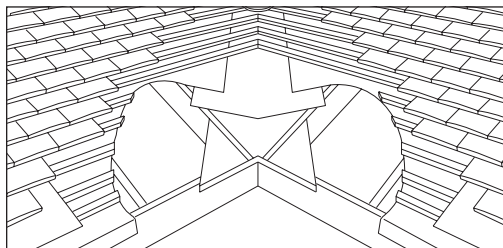

Fig 62 – Metal valley construction for plain tiles
- Mechanically fix all tiles and pieces adjacent to valley (Fig 62). For details refer to 'Metal valleys' for interlocking tiles on Page 42 .